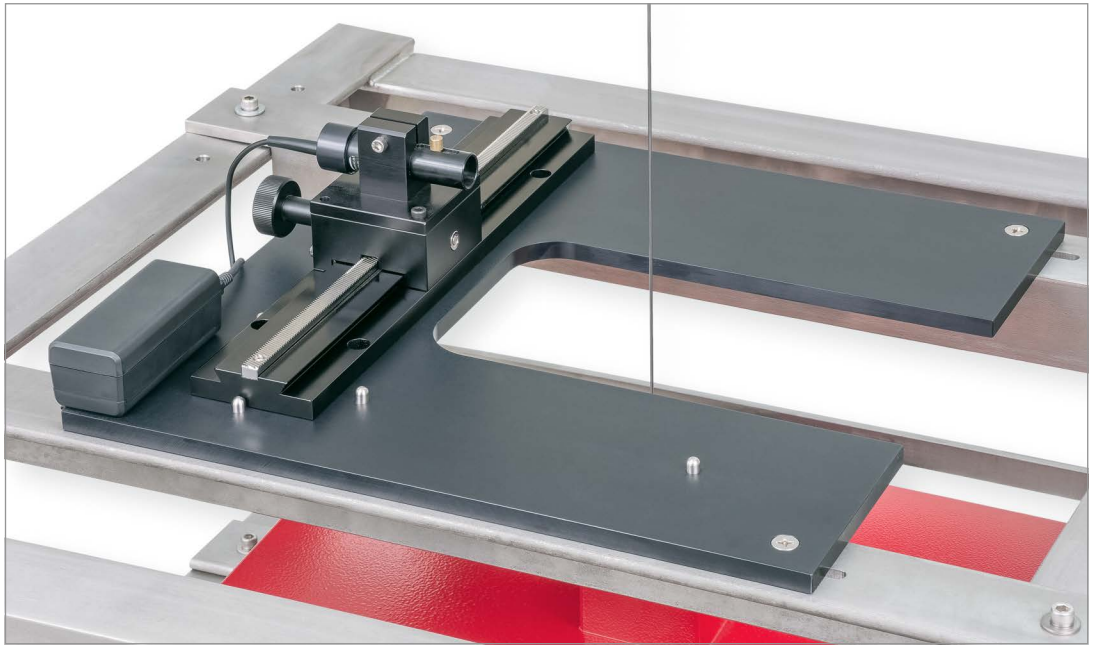

FIGURE 30: *Manual Readout in Position Two*
5. Place the LED collimator on top of the U-shaped mounting plate at a 90-degree angle from the first position. Once again, position it so that the vernier scale side rests against two pegs, this time placing the right end against the third peg, as shown in Figure 30.